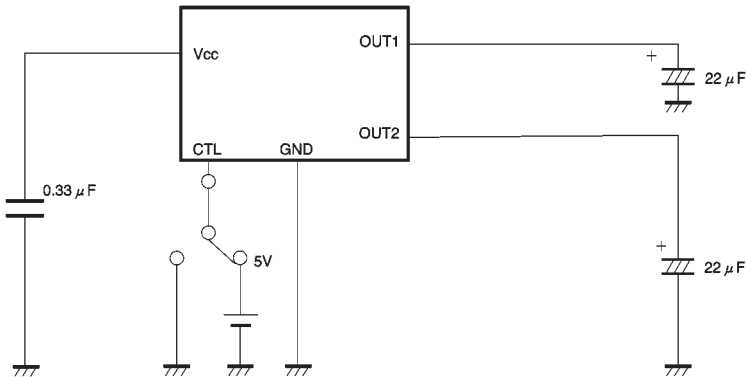

Fig.8
(1) The application circuit of Fig.8 is recommended for use. Make sure to confirm the adequacy of parts characteristics. When using the circuit with changes to external circuit constants, make sure to leave sufficient margins in consideration of fluctuations in the IC and external components including static and transitional characteristics. Note that ROHM has not carried out extensive survey regarding the patent right of this application.
**(2) Operating power supply voltage**